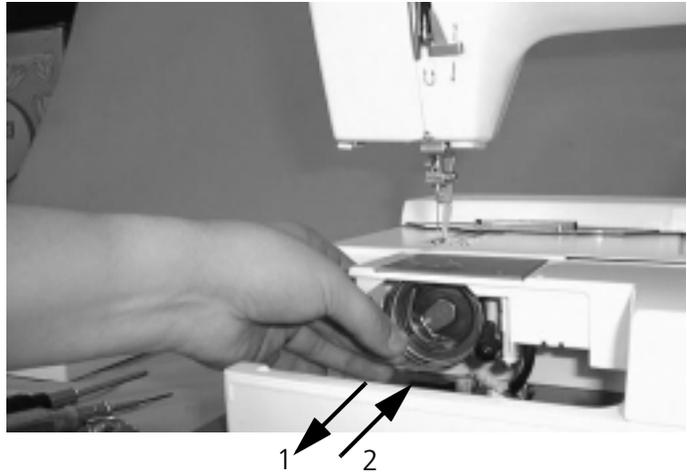

FIGURE 2-8
9. Draw out the hook race body(unit) in the arrow 1 direction as shown in Fig.2-8. After removing the hook race body cover and hook body, assemble new hook race body(unit) in the arrow 2 direction.